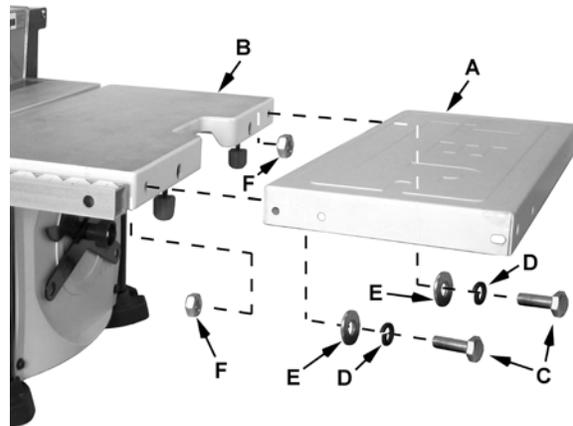

Figure 11
Model BTB – the extension wing should look like (A) in Figure 11
Referring to Figures 11 and 12: